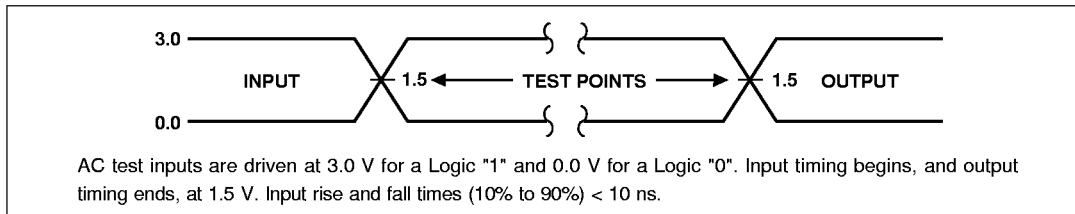
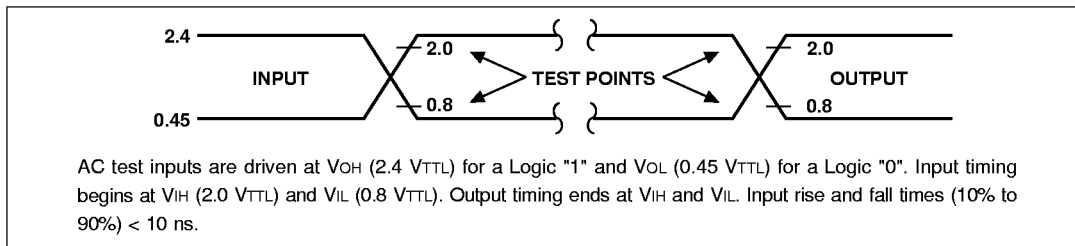
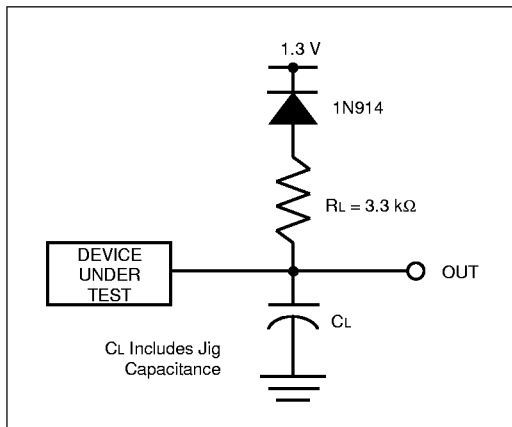

Fig. 9 Transient Input/Output Reference Waveform for Vcc = 5.0±0.25 V (High Speed Testing Configuration)
Fig. 10 Transient Input/Output Reference Waveform for Vcc = 5.0±0.5 V (Standard Testing Configuration)
Fig. 11 Transient Equivalent Testing Load Circuit
- See AC Input/Output Reference Waveform (Fig. 9 and Fig. 10) for maximum allowable input slew rate.
- See Fig. 9 "Transient Input/Output Reference Waveform" and Fig. 11 "Transient Equivalent Testing Load Circuit" (High Speed Configuration) for testing characteristics.
- See Fig. 10 "Transient Input/Output Reference Waveform" and Fig. 11 "Transient Equivalent Testing Load Circuit" (Standard Configuration) for testing characteristics.